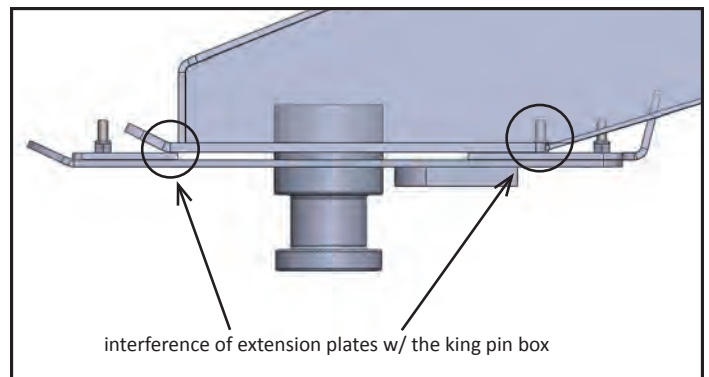

Figure 2
6. If the Universal Capture Plate extends beyond the King Pin box in the front, and there is enough room, install the braces {K2-K6} as shown in Figure 2. These fasteners do not count as part of the minimum number of bolts required.
8. If the Capture Plate extends beyond the King Pin Box, then install the Knee Braces as shown in Figure 2. These fasteners do not count as part of the minimum number of bolts required.
4. Clamp the Universal Capture Plate, equipped with the front and rear extensions, to the bottom of your king pin box. You may find the fasteners interfere with the bottom of the king pin box, as well as the extension plates preventing the Universal Capture Plate from sitting flush with the king pin box (see Figure 2). It will be necessary to trim the extension plates, as the Universal Capture Plate *must* fit **flush** against the king pin plate.